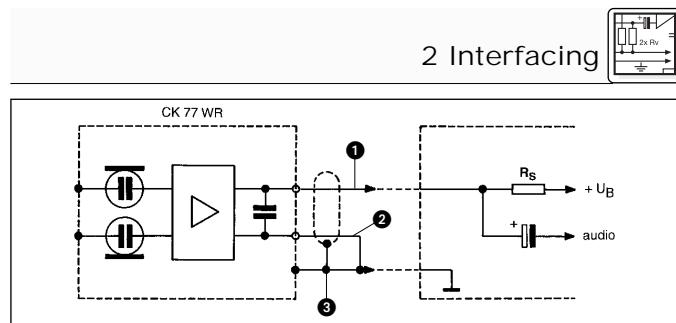

Fig. 2: CK 77 WR circuit diagram.
- Refer to fig. 2. 2. Check what type of connector you need and solder the connector to the microphone cable.